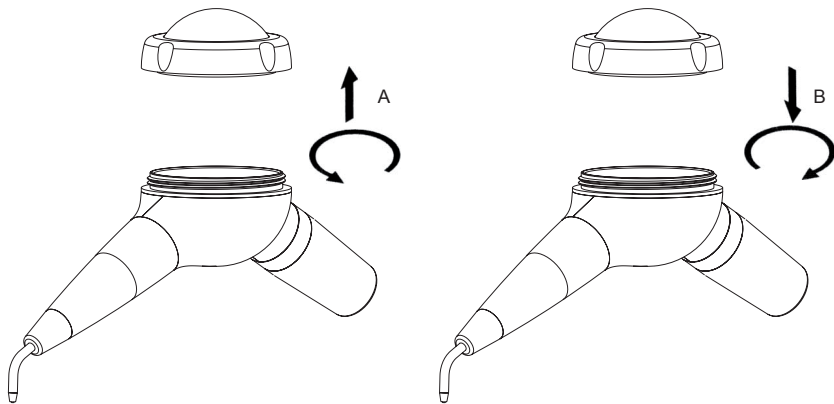

Fig. 4
- 4 Unscrew the cap of the power container (Fig.4 - Ref.A);
- 6 Screw the cap of the powder container back on, without tightening it excessively (Fig.4 - Ref.B);